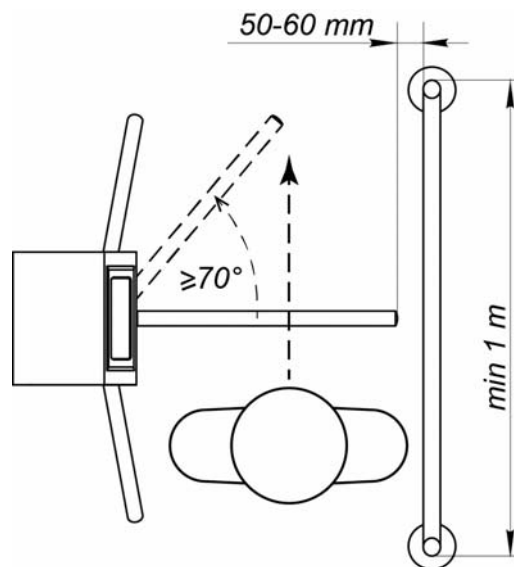

Figure 10. Site preparation. Recommendations
- to organize the passage zone according Fig. 10;
To ensure accurate passage tracking, when the turnstile is operated from an ACS, it is recommended to create the passage area in such a way that the barrier arms should turn in the direction of movement at the angle no less than 70° (Fig. 10).